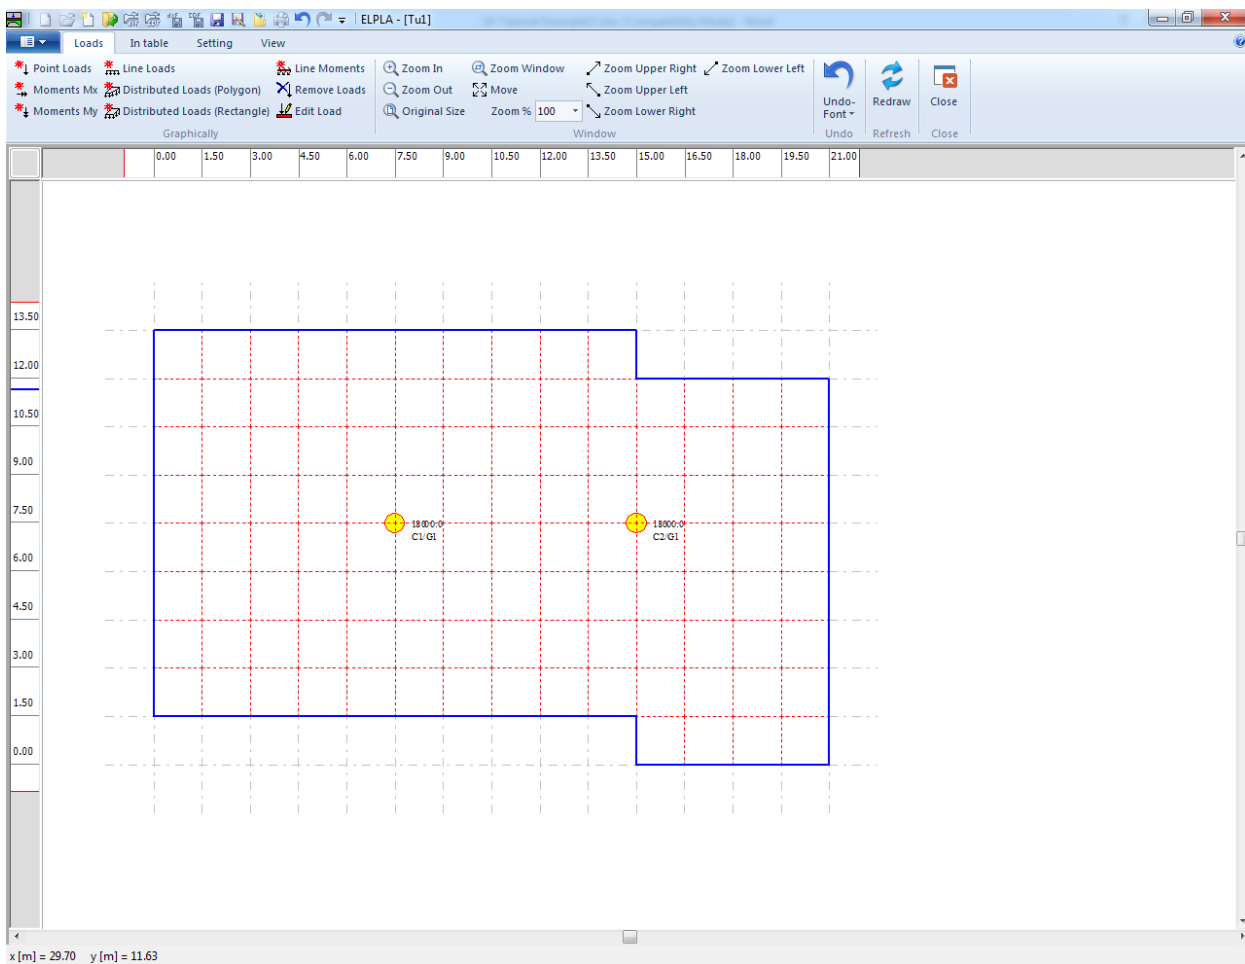

Figure 13.35 Loads after being defined
After you have completed the definition of all load data, the screen should look like the following Figure 13.35.
- Choose "Save" command from "File" menu in Figure 13.35 to save the load data
- Choose "Close" command from "File" menu in Figure 13.35 to close the "Loads" Window and return to *ELPLA* main window